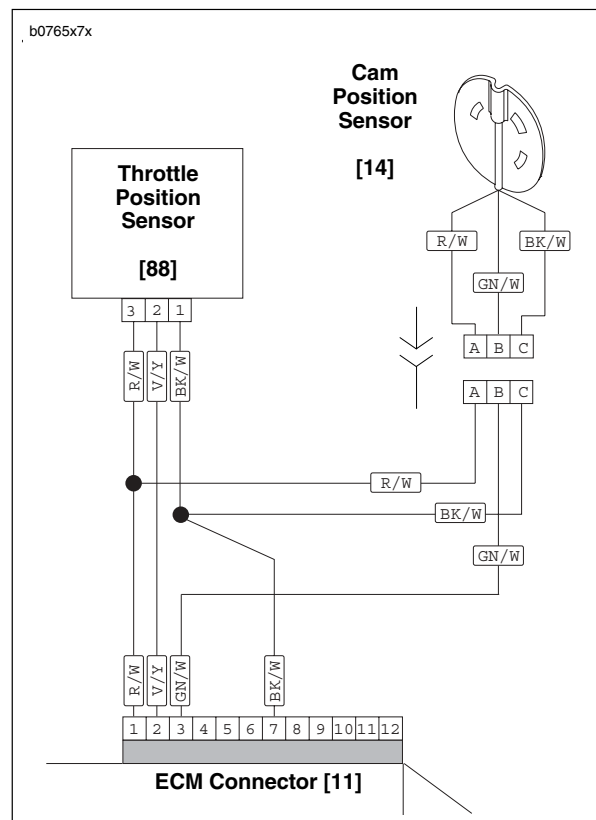

Figure 4-71. Connecting Sensor Wires
2. Install trigger rotor (17).
- a. Apply LOCTITE THREADLOCKER 243 (blue) to threads of bolt (18).
- b. Position trigger rotor (17) onto end of camshaft aligning notch with camshaft slot.
3. Install cam position sensor (18) and timer plate studs (4). Rotate cam position sensor to its previously marked position to obtain approximate ignition timing.
5. See Figure 4-71. Install sensor wiring terminals into correct positions in plug end of connector [14]. R/W, GN/W and BK/W wires of plug end (from cam position sensor) must match same color wires in receptacle end of connector (from ignition module wiring harness). Install pin terminals. See B.2 DEUTSCH ELECTRICAL CONNECTORS.